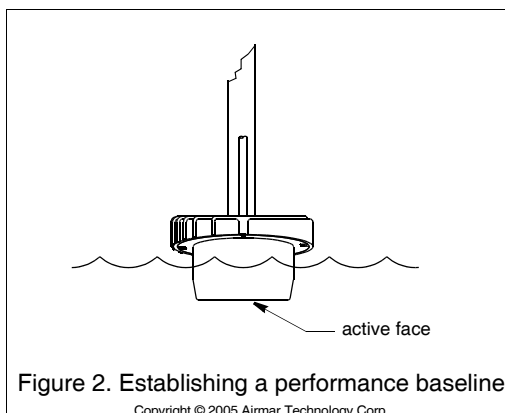

Figure 2. Establishing a performance baseline
3. Tape the transducer to a pole with the cable side up. Hold it over the side of the boat with the active face submerged in the water (see Figure 2). *Be sure to keep the active face of the transducer parallel to the surface of the water and fully submerged.*